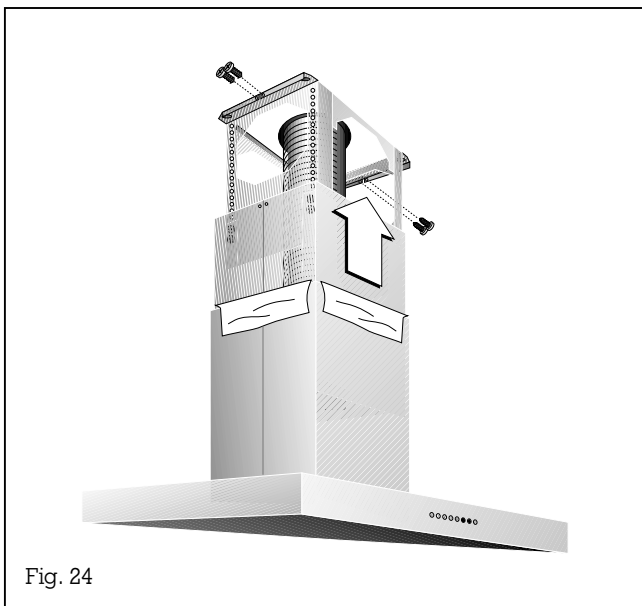

Fig. 24
14. Pull the top duct unit up into its final position. Secure the top duct unit with 4 screws on the support frame (Fig. 24).